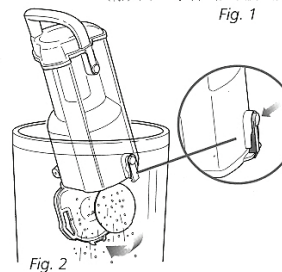

Fig. 2
- 3 Press the bottom dust cup release button. Tap the container gently to dislodge and release dust and debris. (Fig. 2)